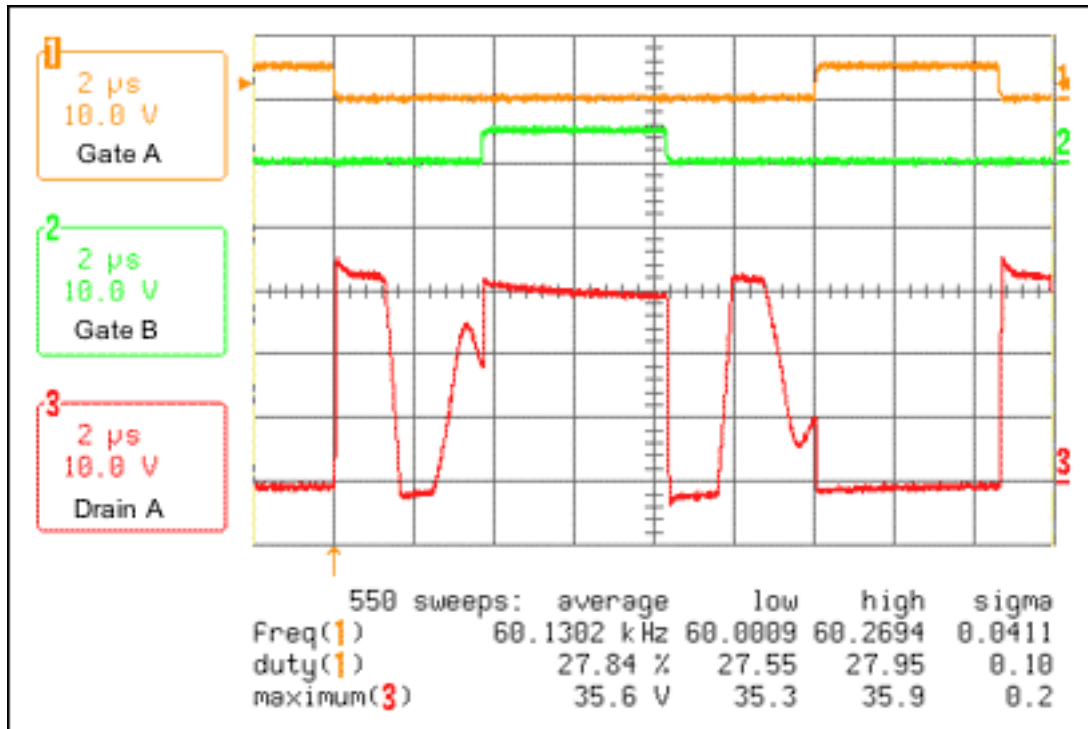

Figure 5. Drain voltage with RC snubber circuit ( $39\Omega$ ,  $1000\text{pF}$ ).
**Figure 5** shows the result of adding a snubber circuit with an R of  $39\Omega$  and a C of  $1000\text{pF}$ .